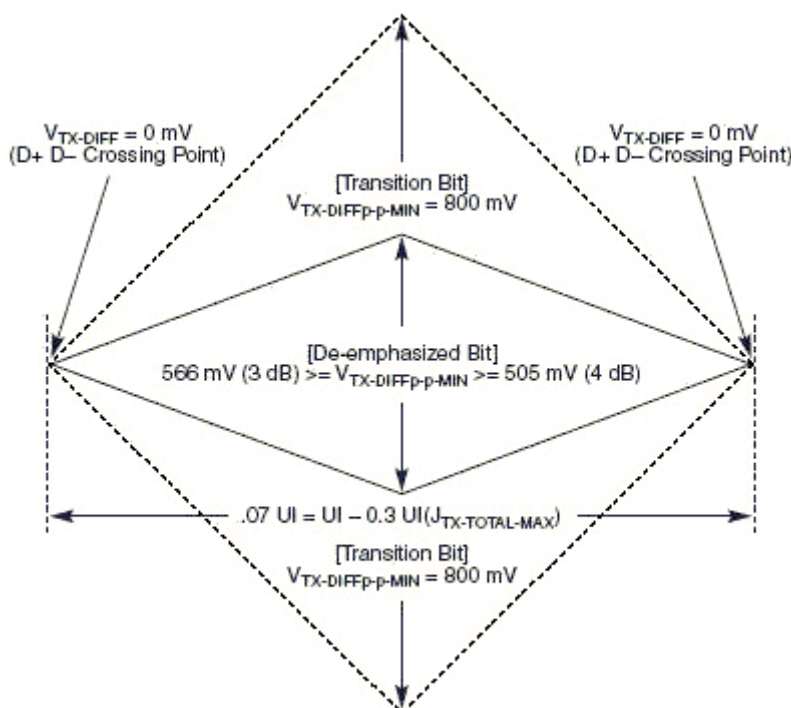
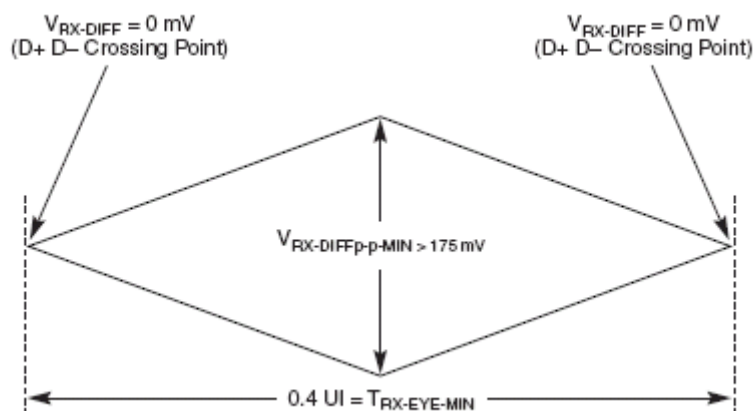
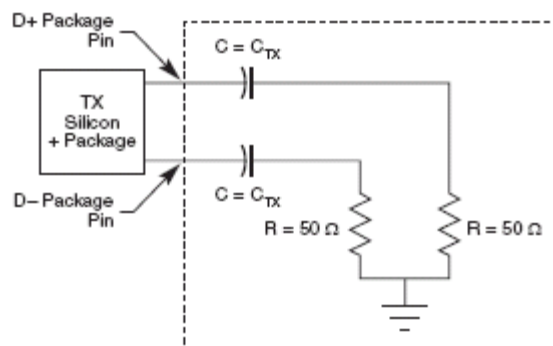

Figure 56. Minimum Transmitter Timing and Voltage Output Compliance Specifications
Figure 57. Minimum Receiver Eye Timing and Voltage Compliance Specification
Figure 58. Compliance Test/Measurement Load
- 2.) Specified at the measurement point into a timing and voltage compliance test load as shown in Figure 58 and measured over any 250 consecutive TX UIs. (Also refer to the transmitter compliance eye diagram shown in Figure 56.)
- 4.) The transmitter input impedance shall result in a differential return loss greater than or equal to 12 dB and a common mode return loss greater than or equal to 6 dB over a frequency range of 50 MHz to 1.25 GHz. This input impedance requirement applies to all valid input levels. The reference impedance for return loss measurements is 50  $\Omega$  to ground for both the D+ and D– line (that is, as measured by a vector network analyzer with 50- $\Omega$  probes—see Figure 58). Note that the series capacitors  $C_{\text{TX}}$  is optional for the return loss measurement.
- 5.) Measured between 20%–80% at transmitter package pins into a test load as shown in Figure 58 for both  $V_{\text{TX-D+}}$  and  $V_{\text{TX-D-}}$ .
The TX eye diagram in Figure 56 is specified using the passive compliance/test measurement load (see Figure 58) in place of any real PCI Express interconnect +RX component.
- 2.) Specified at the measurement point and measured over any 250 consecutive UIs. The test load in Figure 58 should be used as the RX device when taking measurements (also refer to the receiver compliance eye diagram shown in Figure 57). If the clocks to the RX and TX are not derived from the same reference clock, the TX UI recovered from 3500 consecutive UI must be used as a reference for the eye diagram.
- 4.) The receiver input impedance shall result in a differential return loss greater than or equal to 15 dB with the D+ line biased to 300 mV and the D– line biased to –300 mV and a common mode return loss greater than or equal to 6 dB (no bias required) over a frequency range of 50 MHz to 1.25 GHz. This input impedance requirement applies to all valid input levels. The reference impedance for return loss measurements for is 50  $\Omega$  to ground for both the D+ and D– line (that is, as measured by a vector network analyzer with 50- $\Omega$  probes, see Figure 58). Note that the series capacitors CTX is optional for the return loss measurement.
The RX eye diagram in Figure 57 is specified using the passive compliance/test measurement load (see Figure 58) in place of any real PCI Express RX component.
In general, the minimum receiver eye diagram measured with the compliance/test measurement load (see Figure 58) will be larger than the minimum receiver eye diagram measured over a range of systems at the input receiver of any real PCI Express component. The degraded eye diagram at the input receiver is due to traces internal to the package as well as silicon parasitic characteristics which cause the real PCI Express component to vary in impedance from the compliance/test measurement load. The input receiver eye diagram is implementation specific and is not specified. RX component designer should provide additional margin to adequately compensate for the degraded minimum receiver eye diagram (shown in Figure 57) expected at the input receiver based on some adequate combination of system simulations and the return loss measured looking into the RX package and silicon. The RX eye diagram must be aligned in time using the jitter median to locate the center of the eye diagram.
The reference impedance for return loss measurements is  $50\ \Omega$  to ground for both the D+ and D– line (that is, as measured by a vector network analyzer with  $50\text{-}\Omega$  probes, see Figure 58). Note that the series capacitors, CTX, are optional for the return loss measurement.
The AC timing and voltage parameters must be verified at the measurement point, as specified within 0.2 inches of the package pins, into a test/measurement load shown in Figure 58.